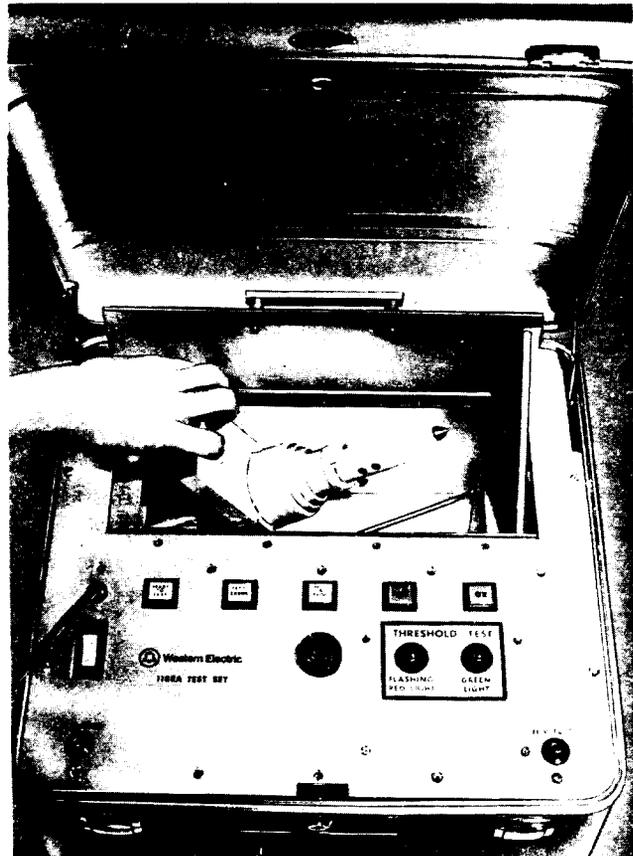

Fig. 5—Lowering 188A Test Set
6. **Lower the test probe. Do not drop. Do not slam the test lid shut.** The 1188A test set will not operate unless a 188A test set is inserted into the test probe socket and the test lid is closed (Fig. 5 and 6).